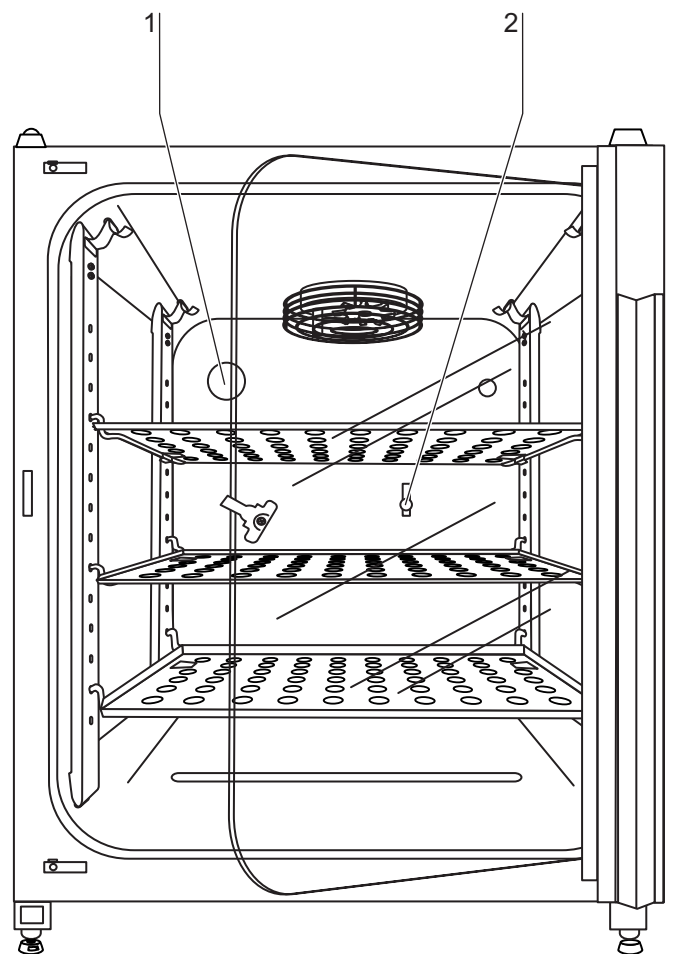

Fig.20: CO₂ calibration
3. **Fig.20:** Route the measuring instrument either through the measurement opening [2] in the glass door or through the access port [1] at the rear panel of the device. Wait until the CO₂ value displayed by the instrument has stabilized.